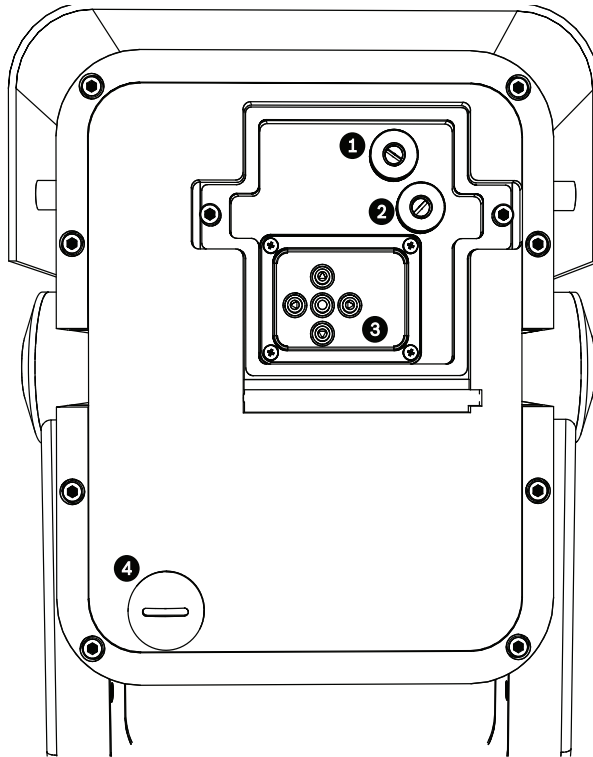

Figure 4.2 Camera and LED
3. Open the access panel. Now you can adjust the focus, focal length, and LED tilt controls (see *Figure 4.2* below).
1. Use the top set screw (item 1, *Figure 4.2*) to adjust the image focus:
2. Use the lower set screw (item 2, *Figure 4.2*) to adjust the focal length (tight or wide):